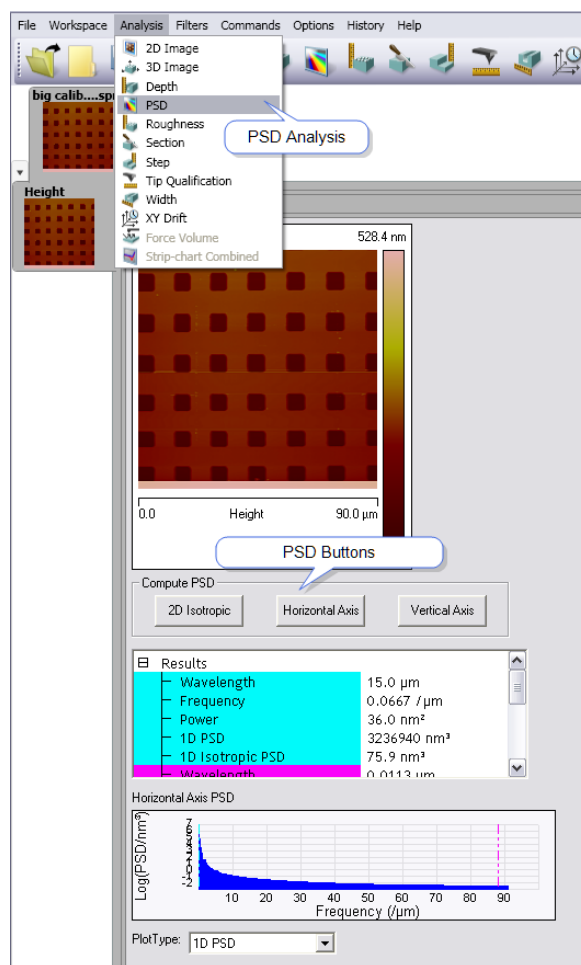

Figure 5.9e: PSD Menu & Window
2. Open the **PSD** analysis by selecting Analysis > PSD from the **Menu** bar or by clicking on the PSD icon in the **Icon** toolbar. The **PSD** window, shown in Figure 5.9e, opens to allow **PSD** plotting.